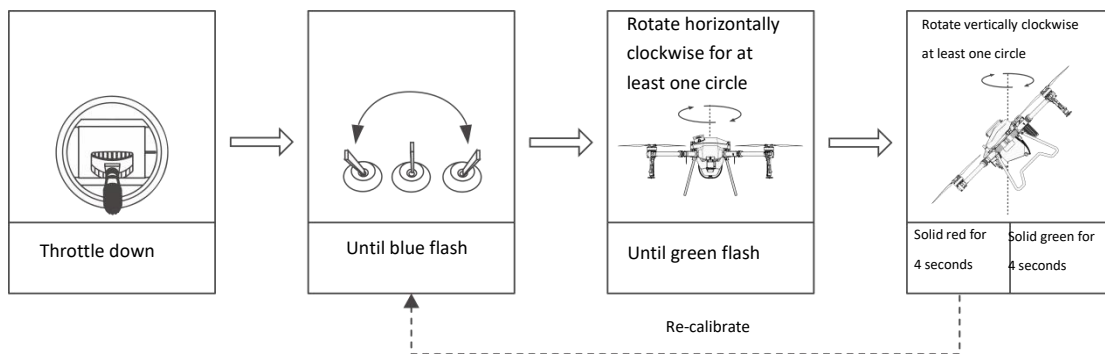

Figure 1-37 Compass Calibration
Step 5: Calibration fails if the status indicator shows solid red for 4s. Repeat **Step 2-4** until the operation succeeds. See Figure 1-37.